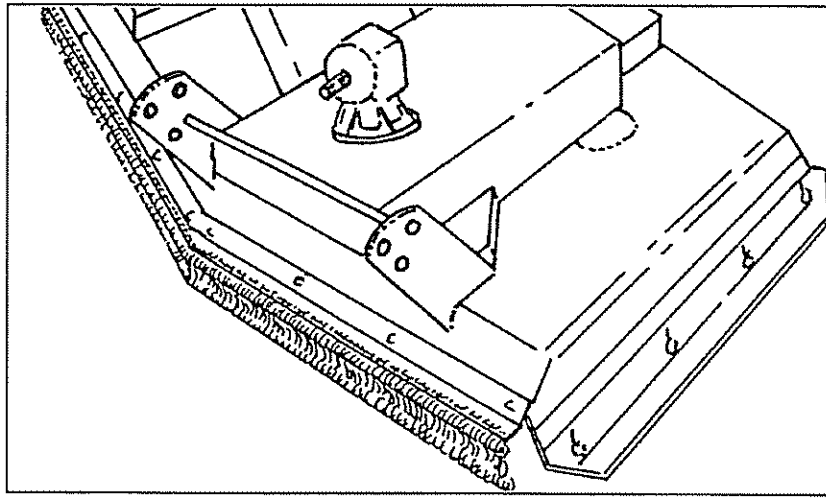

FIGURE 13
1. Attach the right and left chainguard assemblies to the mower with 10 - 1/2" x 1-1/4" bolts, 10 - 1/2" flatwashers, and 10 - 1/2" locknuts as shown in figure 13.